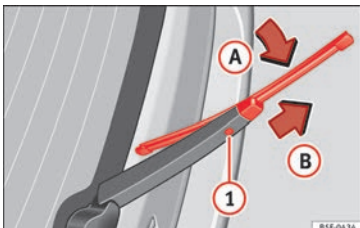

Fig. 83 Changing the rear wiper blade
- Turn the blade slightly » » » Fig. 83 (arrow A).
- Hold down the release button ① while gently pulling the blade in the direction of arrow B.
- Insert a new blade of the **same length and type** in the rear wiper arm in the opposite direction to the arrow B and hook into place button ①.